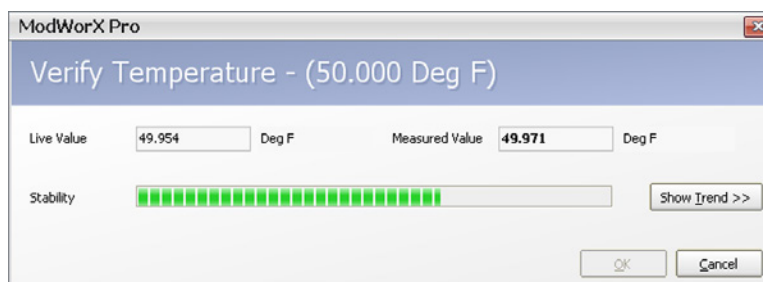
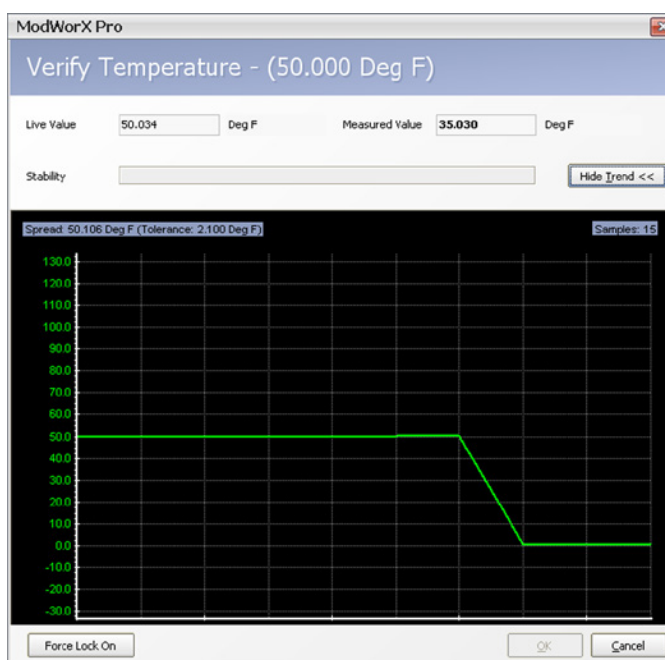

Figure 8.20
Figure 8.21
6. Enter the applied temperature value (for example, 50) in this field, and click **OK**. A screen will appear, showing the live value, the measured value, and a stability bar showing the progression of the verification (Figure 8.20). The live value is the instantaneous reading of the temperature input, and the measured value is the average of all samples read.
7. To view the progression of the verification process in a graph, click **Show Trend** (Figure 8.20). This graph view also shows the spread of values and the number of sample readings taken (Figure 8.21).